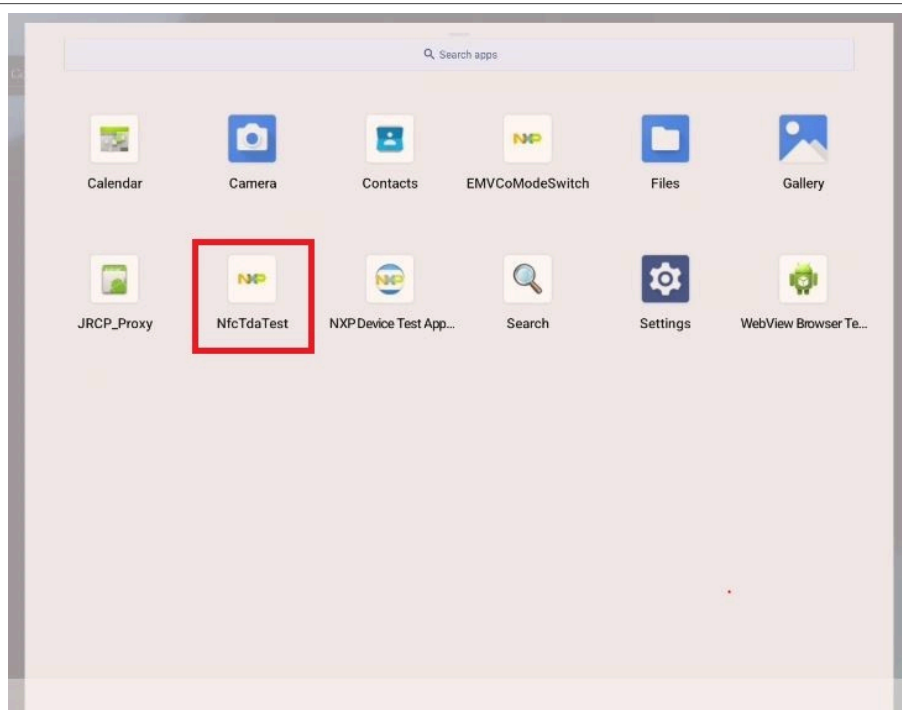

Figure 38. Open NfcTdaTest application
1. Figure 38 shows how to open the application.